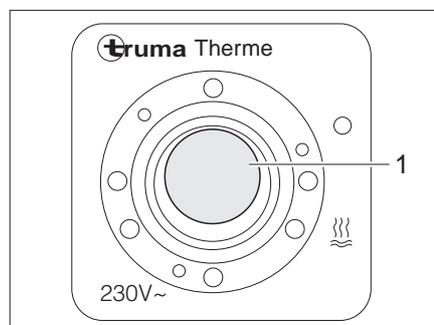

Fig. 134 Operating switch for water heater
The electrical mode of operation is activated using the operating switch (Fig. 134). The indicator lamp (Fig. 134,1) on the switch must light up.
- Switch on the operating switch (Fig. 134). Indicator lamp (Fig. 134,1) on the switch lights up.
- Switch off the operating switch (Fig. 134). The indicator lamp (Fig. 134,1) on the switch goes off.
- Switch off the operating switch (Fig. 134). The indicator lamp (Fig. 134,1) in the switch is not on.